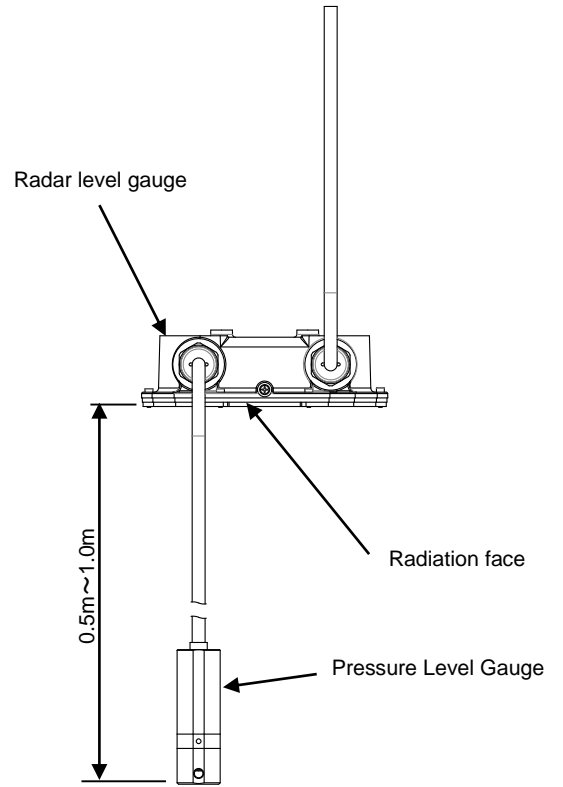

Fig. 2-3 Installation location of Radar Level Gauge
- Install the Pressure Level Gauge at 0.5-1.0m below the radiation face of the Radar Level Gauge as shown in Fig. 2-3.